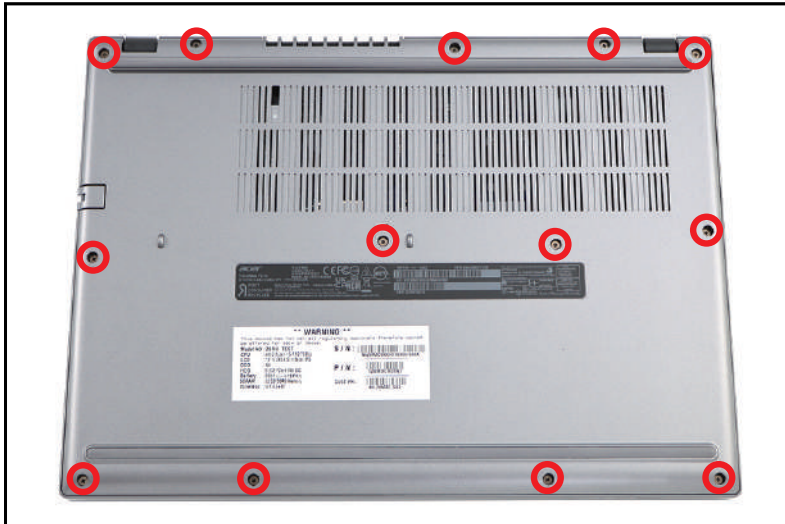

Figure 3-4. Base Cover Removal
1. Remove thirteen (13) screws from the base cover (Figure 3-4).